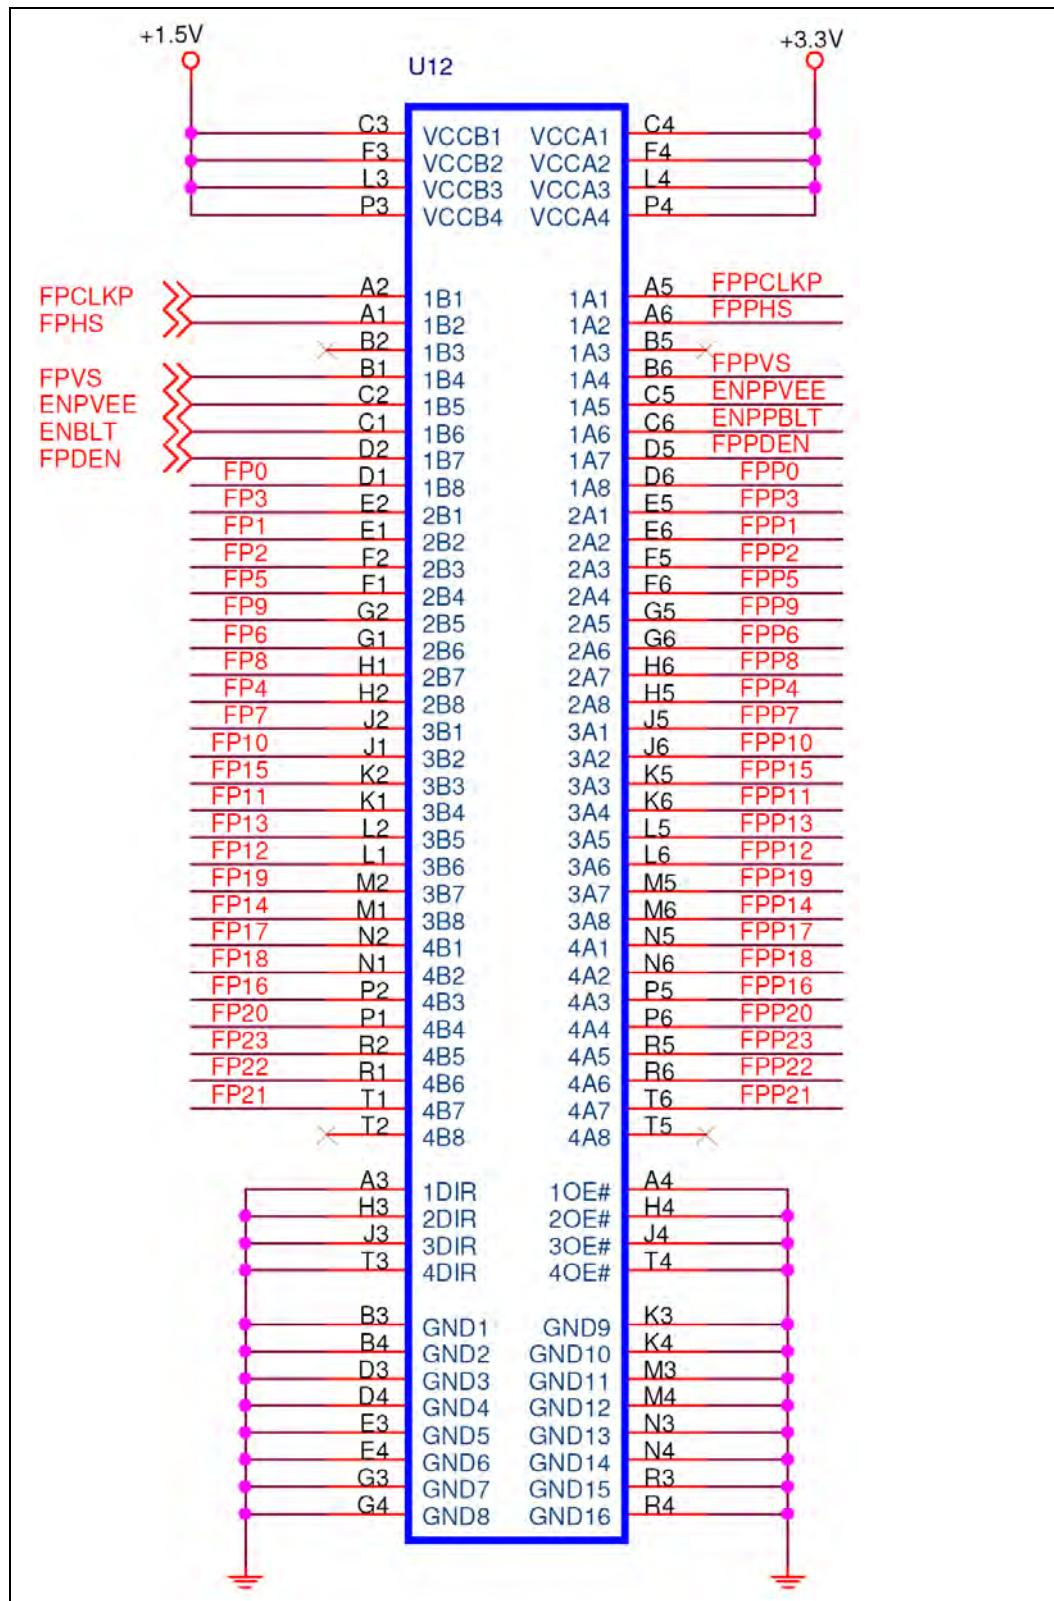

Figure 3-22: PCI Slot Location
- CN Location:** See Figure 3-22